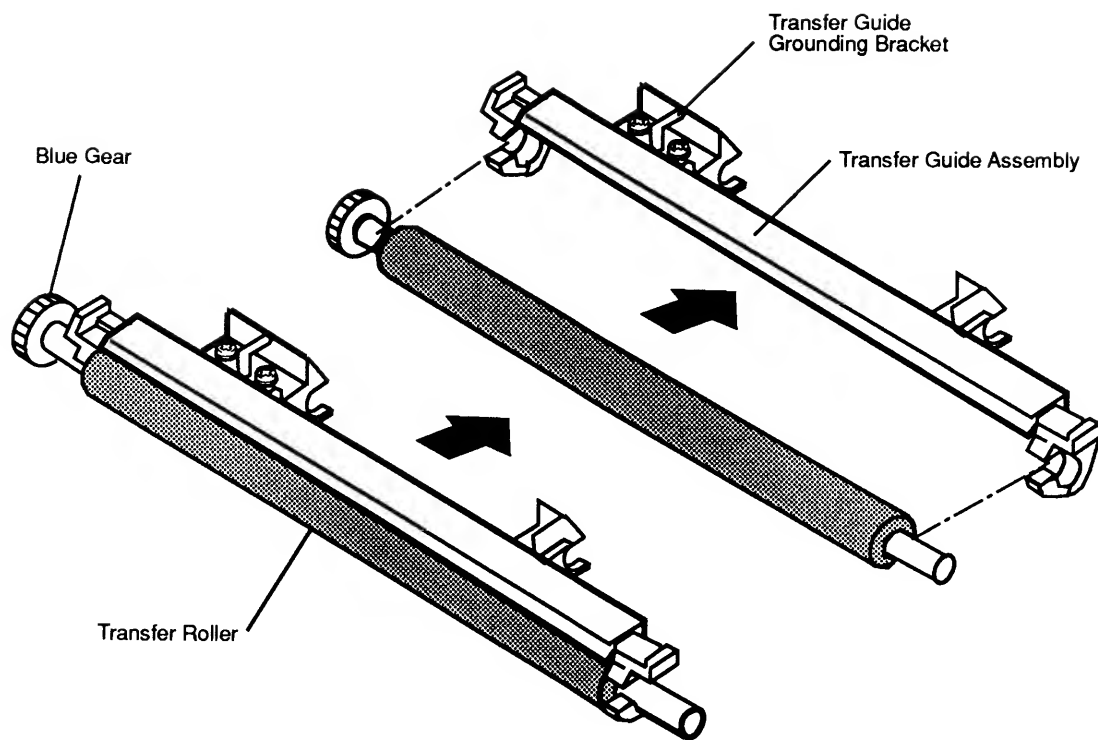

Figure 2-49 Transfer Roller
2. Using your fingers or a small flat-blade screwdriver, release the transfer roller from the transfer guide assembly (**Figure 2-49**).
3. Pull each end of the transfer roller shaft from the transfer guide assembly (**Figure 2-49**).